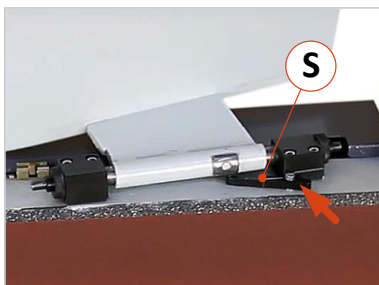

Figure 14: Fence locking springs
- Fold the two veneer fences (7) and (4) back down to their lower positions by unlocking the two locking springs (S) first (see ⇒ Figure 14).